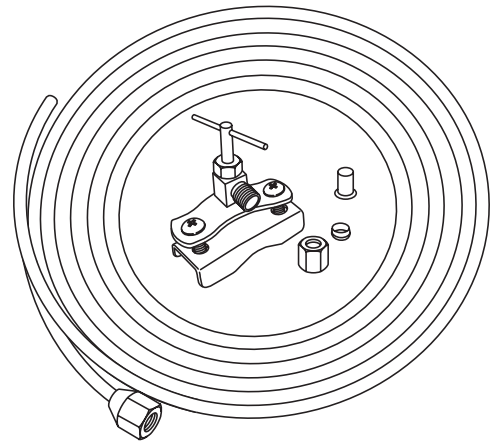

Figure 22
- Use a 1/4" OD copper line to connect the water supply to the solenoid valve. Allow extra length to the water supply line to provide slack for easy removal and to prevent the line from kinking. **This is not supplied with the appliance (Figure 22).**